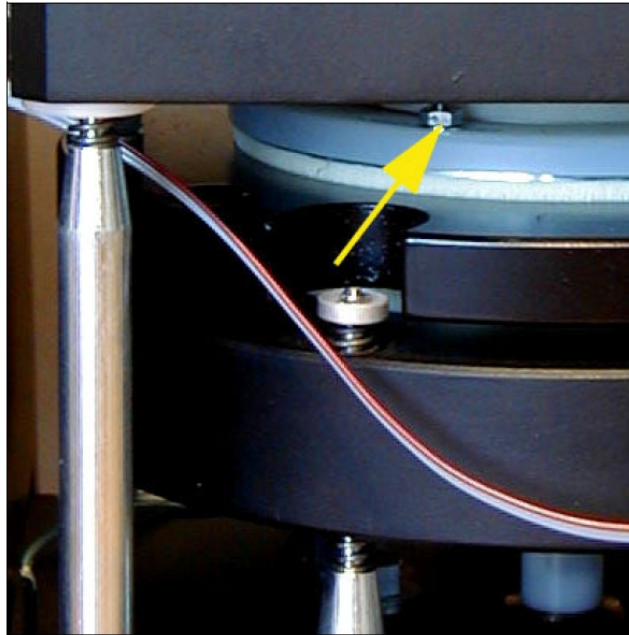

Figure 3: Fixing nut
4. If not, please locate three nuts M3 fixing the rotational system which are under the square plate, marked by yellow arrow in Figure 3.